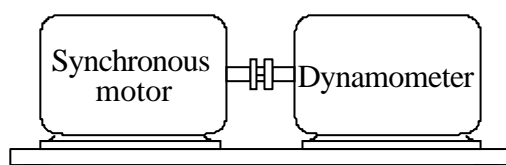

Figure 3
1. Couple the synchronous motor to the dynamometer as shown in figure 3.